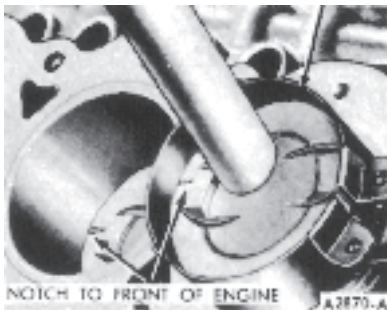

Fig. 36 Installing Piston
4. Install a piston ring compressor on the piston and push the piston in with a hammer handle until it is slightly below the top of the cylinder (Fig. 36). Be sure to guide the connecting rods to avoid damaging the crankshaft journals. **Install the piston with the indentation notch in the piston head toward the front of the engine.**